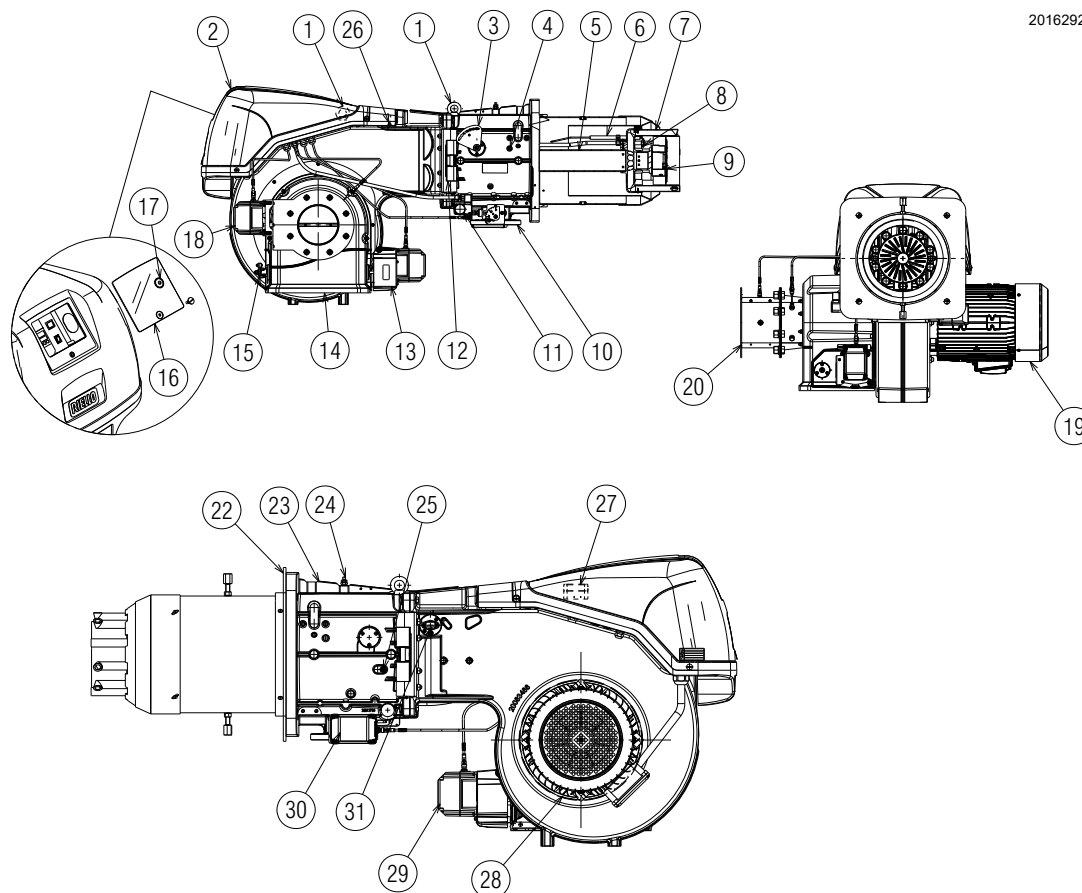

Fig. 4
- (1) Reference conditions: Ambient temperature 20°C - Gas temperature 15°C - Barometric pressure 1013 mbar - Altitude 0 m a.s.l.
(2) Pressure at the test point (21)(Fig. 4) with zero pressure in the combustion chamber and at maximum burner output.
(3) Sound pressure measured in manufacturer's combustion laboratory, with burner operating on test boiler and at maximum rated output. The sound power is measured with the "Free Field" method, as per EN 15036, and according to an "Accuracy: Category 3" measuring accuracy, as set out in EN ISO 3746.